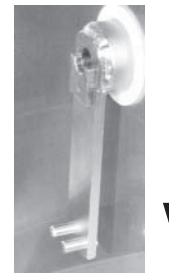

Fig. 44
1. Open rear glass door. Make sure drive arm is in the downward position (Fig. 44).